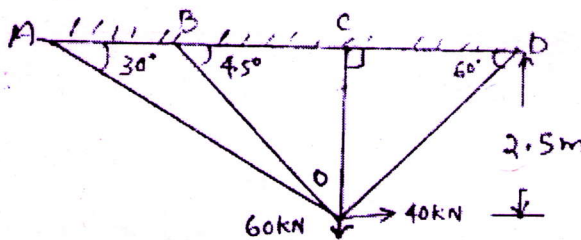

Figure.7
- 5 a) What is meant local and global coordinates (3)
- b) Calculate the member forces in the truss shown in Figure.7 using stiffness method. (12)